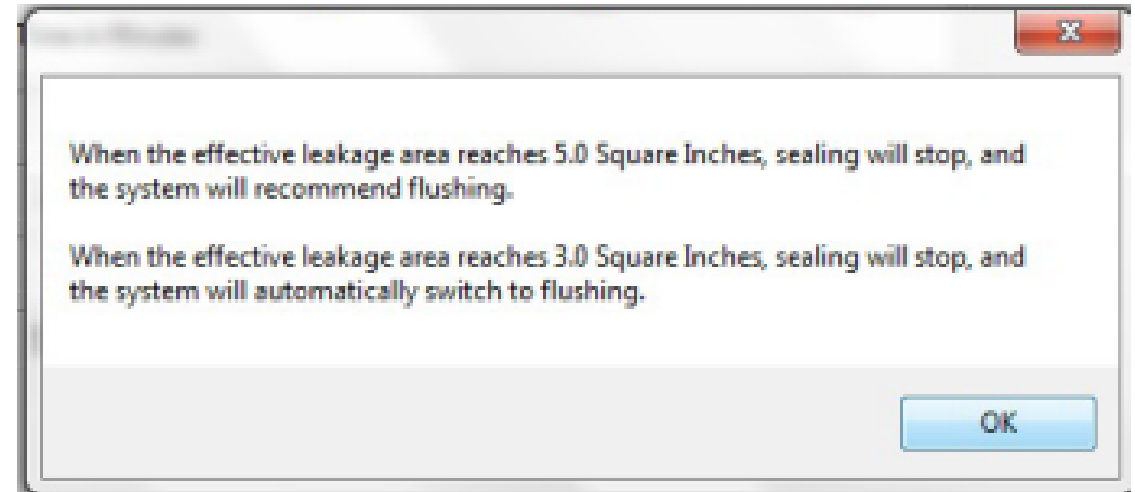

Figure 7. 5.0 sq.in. and 3.0 sq.in. Pop-Up
18. Software alerts you when ELA reaches 5 sq.in. (32sqcm) (See Figure 7)